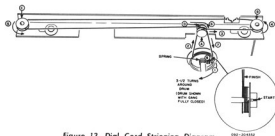

Figure 13. Dial Cord Stringing Diagram
5. Restring the dial cord as follows (Figure 13):
- (b) Proceed clockwise (1) around the drum 3 1/2 turns and up over wheel "A" (2) to wheel "B" (3).
- (c) Continue around wheel "B" (4) and across to wheel "C".
- (d) Continue around wheel "C" (5) and back across to wheel "D" (6) and down to the tuning drum (7).